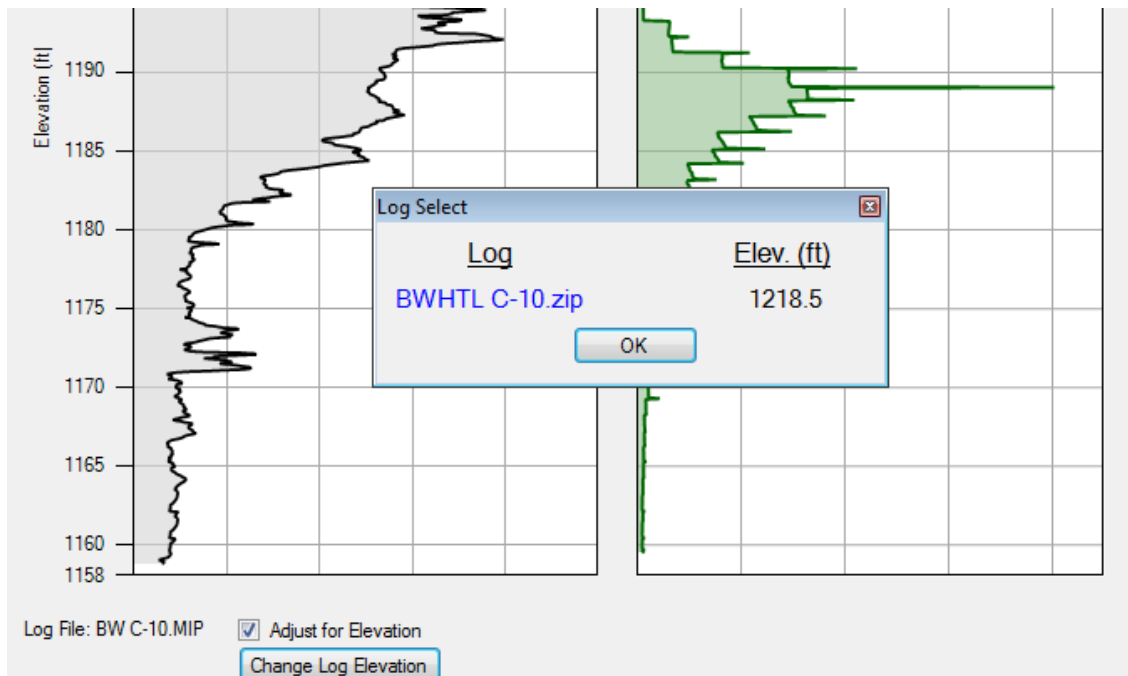

Figure 17: Editing log elevation values
2. Select a log to add/change elevation for – highlighted in blue (Figure 17).